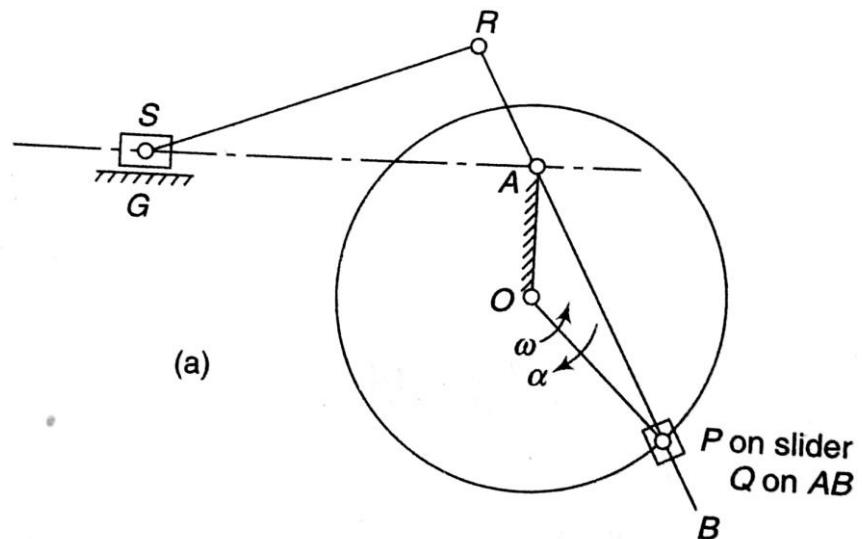

Fig. 7b
b) For the Whitworth quick return mechanism as shown in Fig. 7b, the determine following when the crank OP has an angular velocity of 2.5 rad/sec and angular deceleration of 20 rad/s^2 at the instant.